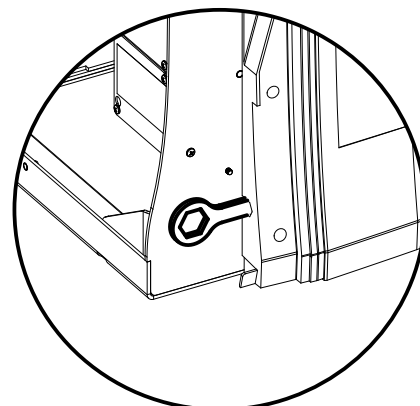

Figure 25. Store the Taper Wrench
6. Store the taper wrench in the cover storage slot. (Figure 25)